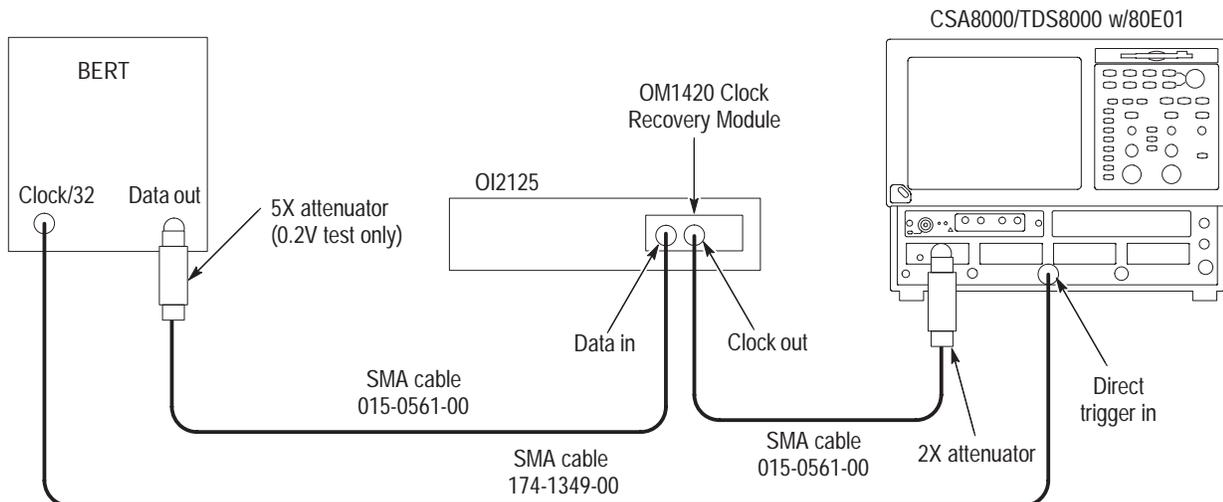

Figure 18: OM1420 Clock Recovery Module test setup
1. Connect the equipment as shown in Figure 18.